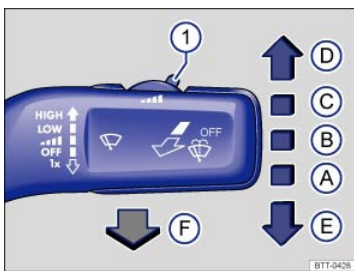

Fig. 82 Using the front windshield wiper.
Adjust the interval settings with switch ⇒ Fig. 82①.